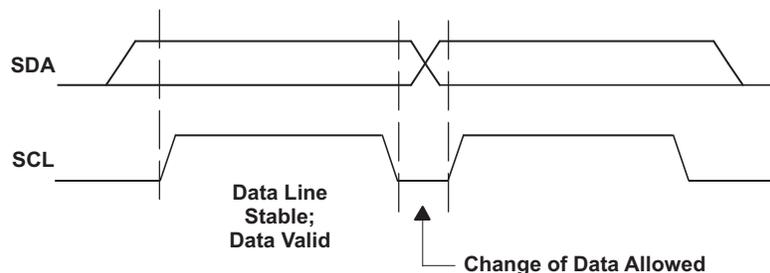
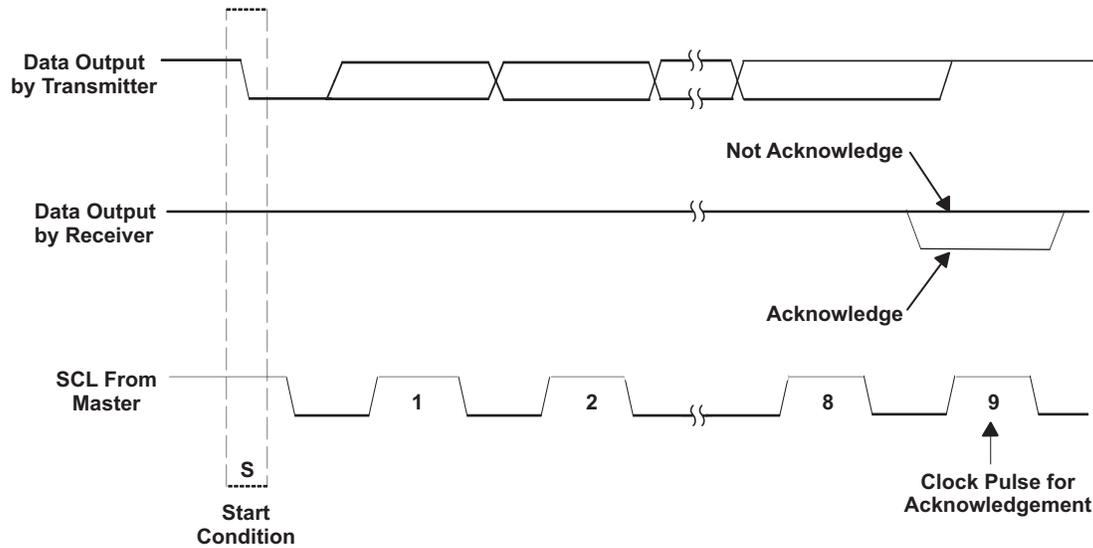

Figure 6. I2C Bit Transfer
Figure 7. I2C Acknowledge
- The *master* then generates the SCL pulses and transmits the 7-bit address and the *read/write direction bit* R/W on the SDA line. During all transmissions, the master ensures that data is *valid*. A *valid data* condition requires the SDA line to be stable during the entire high period of the clock pulse (see Figure 6). All devices recognize the address sent by the master and compare it to the respective internal fixed addresses. Only the slave device with a matching address generates an *acknowledge* (see Figure 7) by pulling the SDA line low during the entire high period of the ninth SCL cycle. On detecting this acknowledge, the master knows that a communication link with a slave has been established.